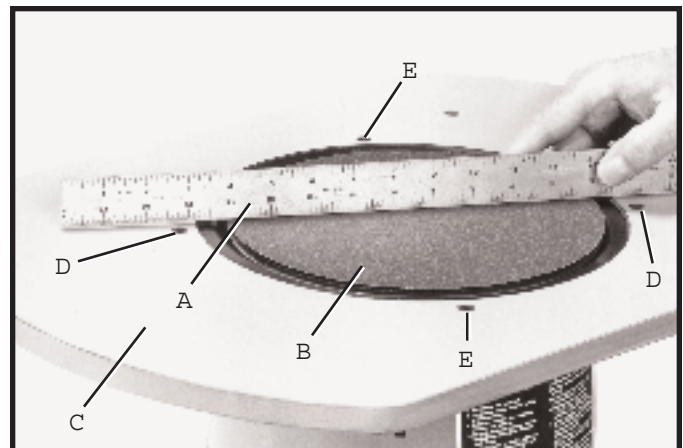

Fig. 7
1. Place a straight edge (A) Fig. 7, on abrasive disc (B) and check to see if the disc is slightly higher than the table surface (C). **NOTE:** Check the table height directly over two adjustment screws (D) Fig. 7, and again over screws (E).